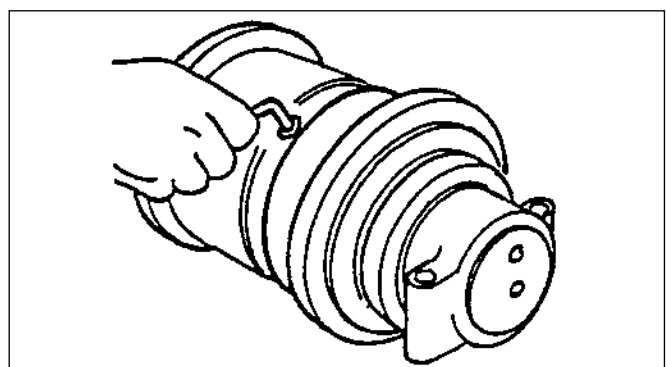

Fig. 3-38 Track roller – oil level
3. Hold the roller in such a way so the oil groove is at the bottom and the oil fill hole is at the top. Now apply air pressure into the roller as in step 7 so the oil is pressed into the seal retaining spaces (9).
5. Put some loctite on the threads of the oil fill plug and install with a 6mm allen wrench (fig. 3-38).